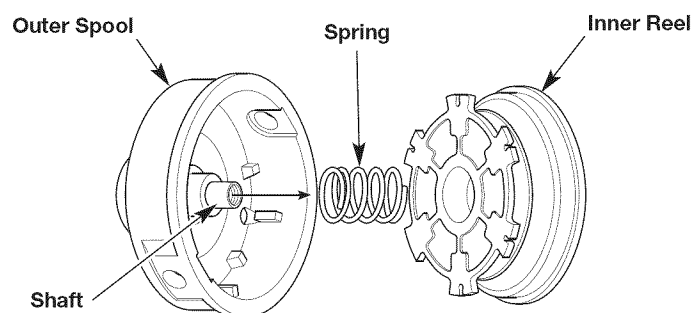

Fig. 10
3. Remove the inner reel from the outer spool (Fig. 10).
4. Remove the spring from the inner reel (Fig. 10).